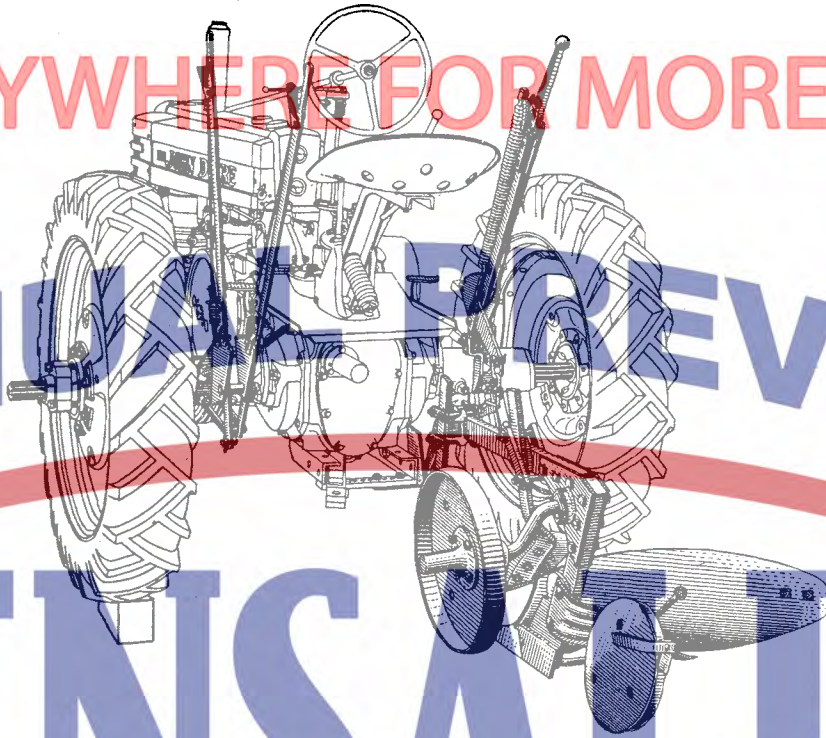

Fig. 1—John Deere H-1 Hand Lift Integral Plow on Model "H" Tractor.
1. Bolt bottom to beam, attaching rolling landside bracket outside of frog at the same time. (See Fig. 1.)